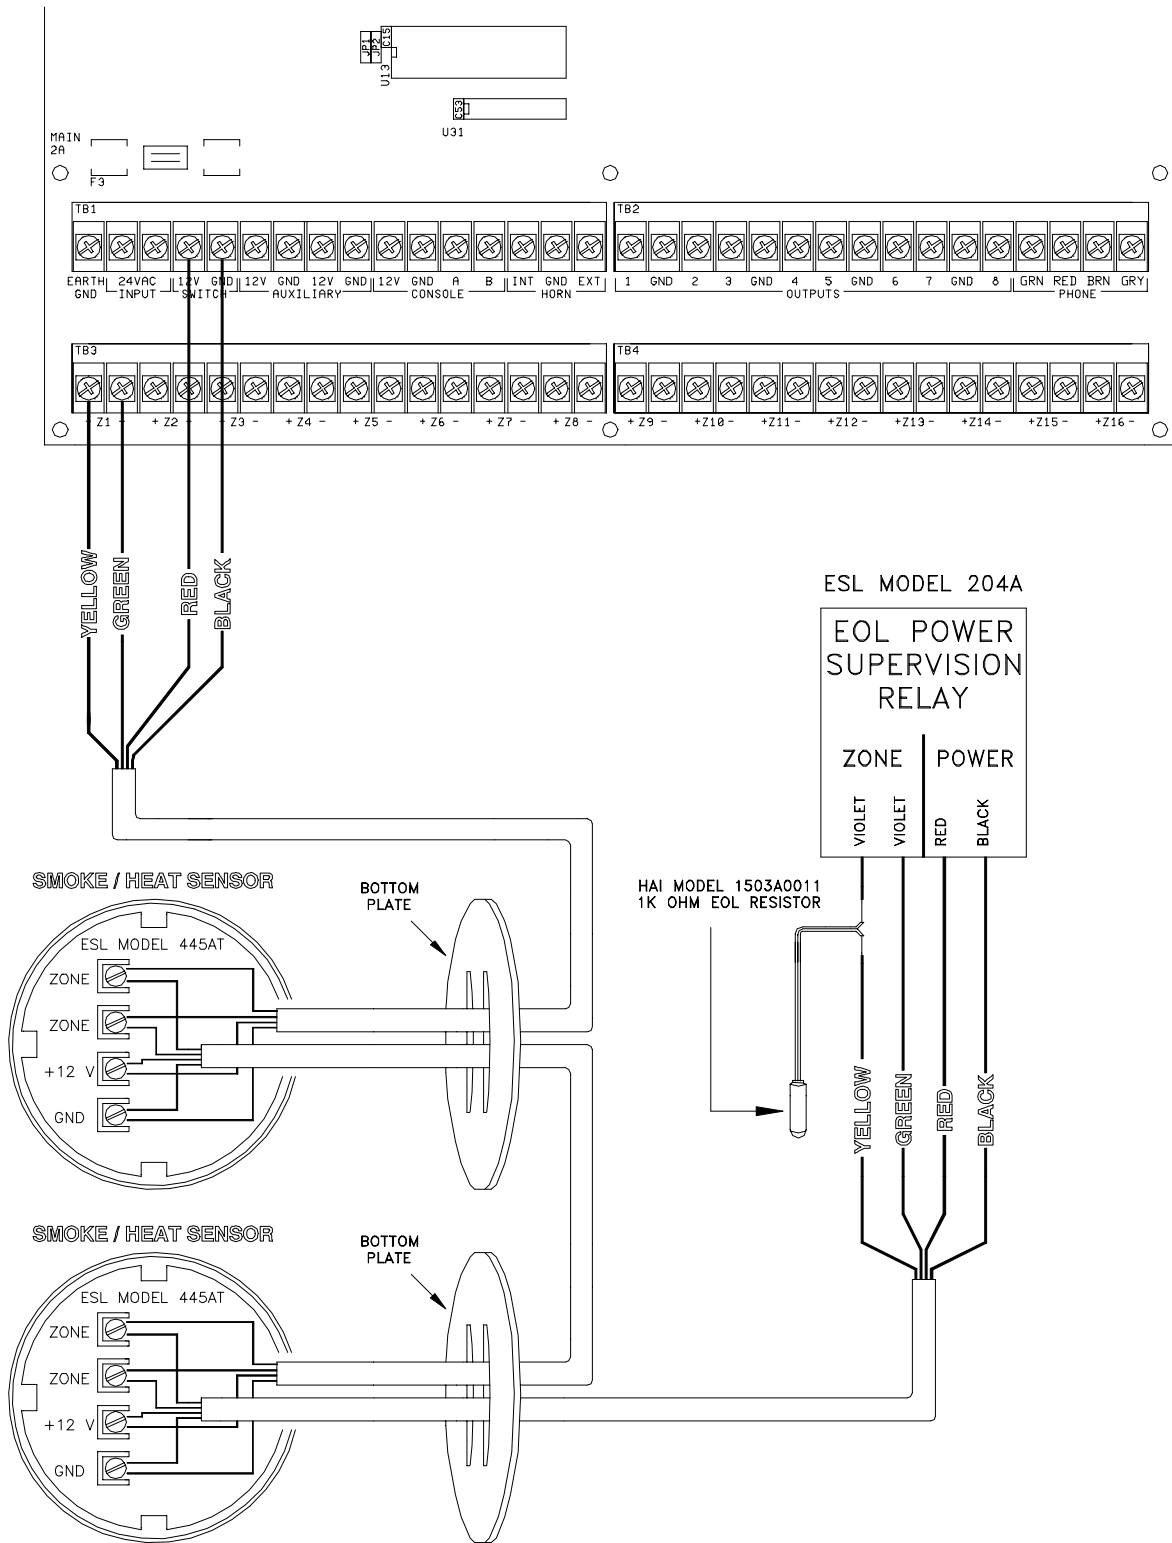

FIGURE 3
5. Refer to **FIGURE 3 (FIRE ZONE CONNECTIONS)** for this configuration.